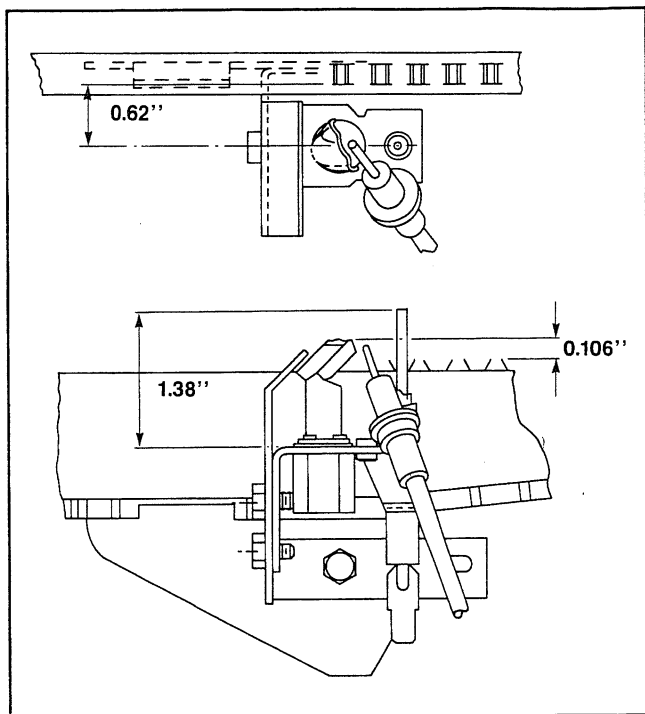

Figure 32. Pilot Location Dimension
**Pilot Burner.** Make sure it is positioned next to the main burner as shown in Figure 32, and is free of soot and dirt.